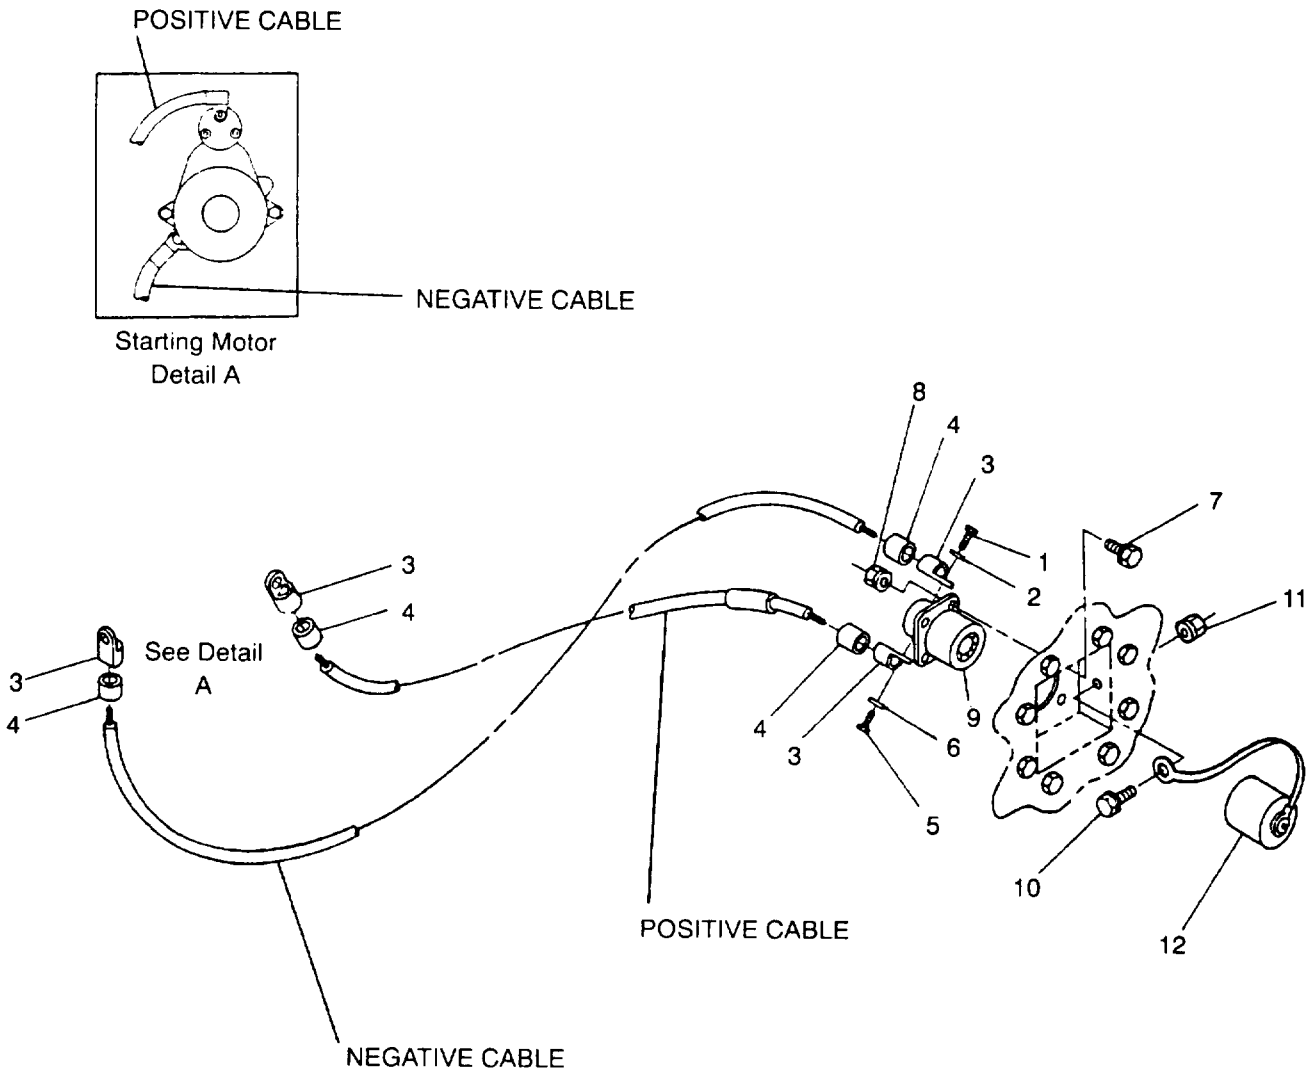

Figure 2-4. NATO Slave receptacle and Cables
- c. Open right side engine access door, remove bolt (1, Figure 2-4), washer (2), and disconnect negative cable terminal (3) from slave receptacle (9).
- d. Remove bolt (5), washer (6), and disconnect positive cable terminal (3) from slave receptacle (9).
- e. Remove bolts (7), nuts (8), and slave receptacle (9) from generator set housing.
- f. Remove bolt (10), nut (11), and cap (12) from housing.
- a. Insert slave receptacle (9, Figure 2-4) into generator set housing.
- b. Secure slave receptacle (9) to generator set with bolts (7) and nuts (8).
- c. Connect slave receptacle positive cable terminal (3) to slave receptacle (9) with bolt (5) and washer (6).
- d. Connect negative cable terminal (3) to slave receptacle (9) with bolt (1) and washer (2).
- e. Attach cap (12) to housing with bolt (10) and nut (11).
- f. Slide cap (12) over slave receptacle (9).